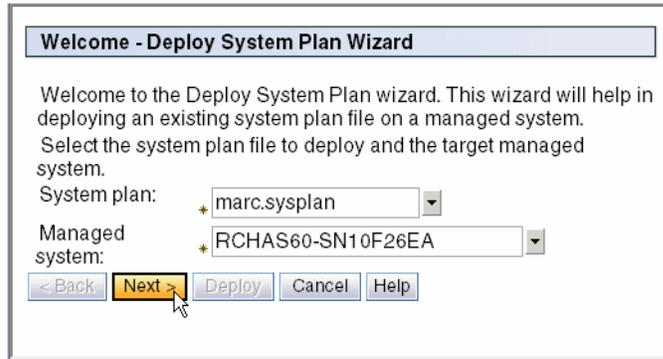

Figure 4-20 Confirm the deployment startup
- After the wizard is started, its Welcome page, shown in Figure 4-20, requests that you confirm the system plan to deploy and choose the managed server to be the target of the procedure. When your choices are done (in our example, we want to deploy the *marc.sysplan* file to the *RCHAS60-SN10F26EA* server), click **Next** to continue.